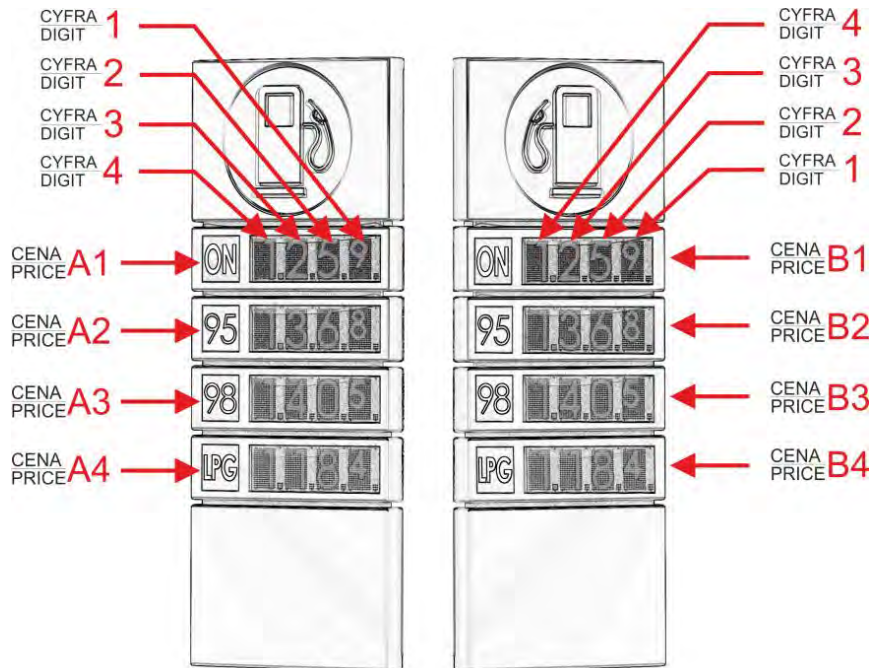

Fig. 2
Digit numbers (Fig. 2)	PYLON
Figure 2 shows an example of a price pylon consisting of four PM25-4U price modules per side¹. The numbering of the price modules starts from the top as shown in the figure above. The first price module from the top should be connected to the A1 connector in the controller, the next - to the A2 connector etc. The price modules may be mounted in any position in the price pylon - the key to proper functioning is the correct connection of the modules to the appropriate connectors in the controller. The price modules are characterized by ingress protection rating IP-67, and the controller - by ingress protection rating IP-65.
The controller has 16 connectors, 8 per each side of the pylon, to which the user connects price modules. The number of connectors used depends on the number of the price modules in use. The price modules must be connected in accordance with the order of their installation on the price pylon, the diagram of which is shown in Figure 2. The price module connection consists in threading the cable coming out of the price module collective box through the gland² and in connecting it to the appropriate connector (A1 ÷ A8, B1 ÷ B8) inside the controller housing. A white signal cable (1) should be connected to the "S" connector and a green (or brown) signal cable (2) to the "G" connector.